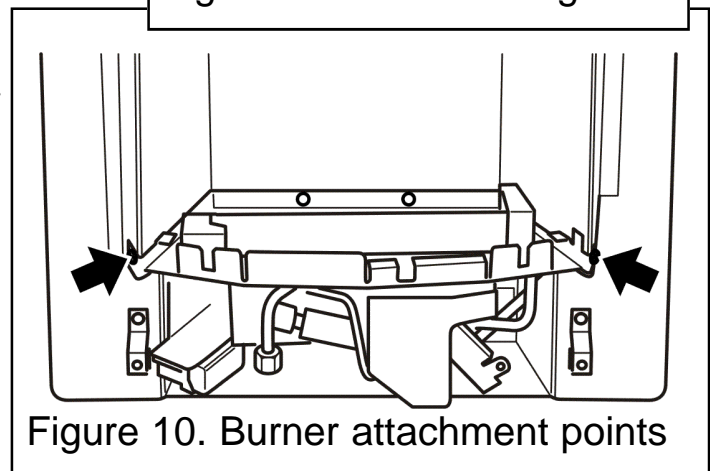

Figure 10. Burner attachment points
3. Detach the burner unit from the convector box by removing two screws - See figure 10. Lift the burner unit clear.